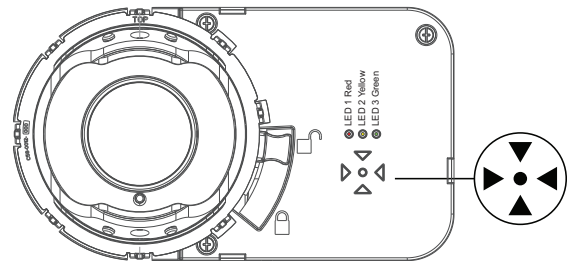
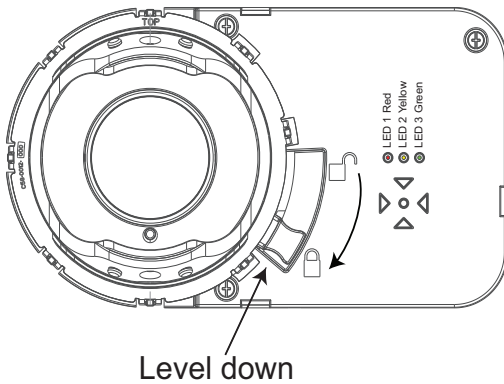

Figure 3-19: Arrow Array
Figure 3-21: Locking and Securing the Eyeball
* Refer to Figure 3-19 and Figure 3-21 for LEDs 1, 2 and 3.